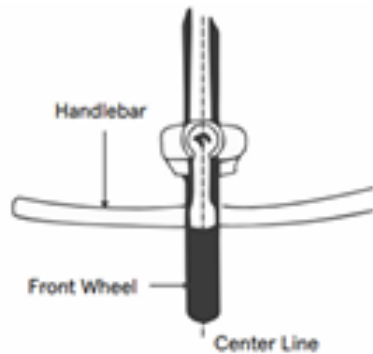

Fig. 4
2. Align the stem with the front wheel (See Fig.4).